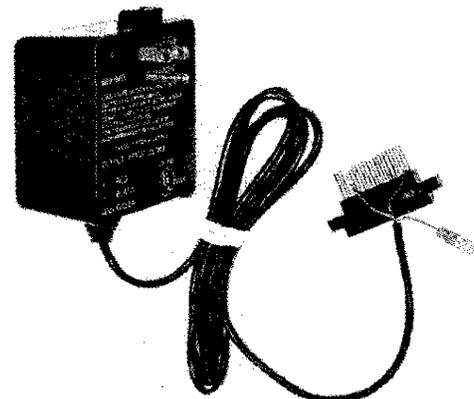

Fig. 17 - AC Power Convertor
5.06 The AC Power Convertor (figure 17) can provide a source of 50 VDC power when the Digital Announcer must be operated outside of the normal telephone equipment environment. The Convertor uses standard (120 VAC) line voltage. It features EMI/RFI control, automatic over-temperature and overcurrent protection, and a pre-wired connector.